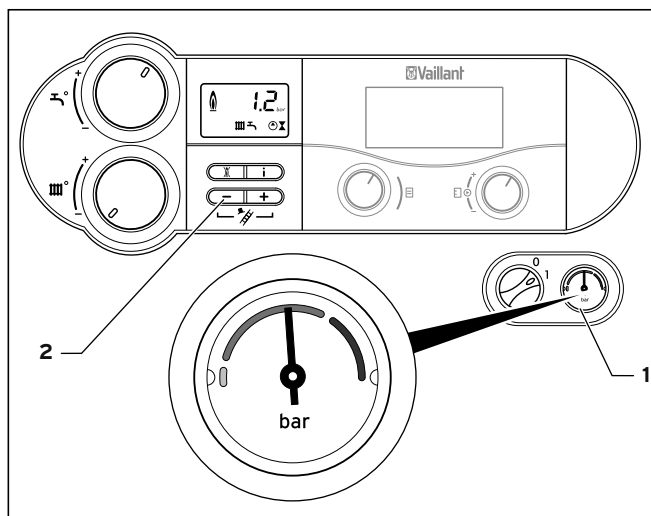

Fig. 6.1 Check the filling pressure of the heating installation
For the heating installation to work properly the indicator on the pressure gauge (1) must be in the upper half of the dark grey area when the system is cold (see Fig. 6.1). This corresponds to a filling pressure between 1.0 and 2.0 bar.